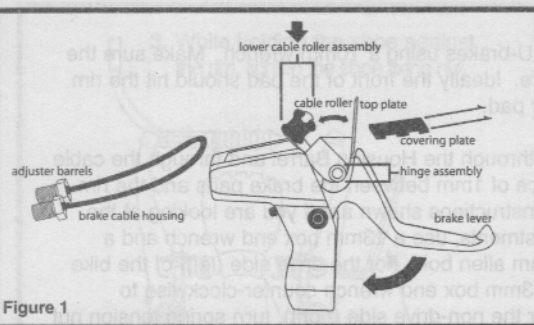

Figure 1
1. Slide the covering plate back towards the brake lever. (Figure 1). Squeeze the brake lever so the cable roller is exposed.